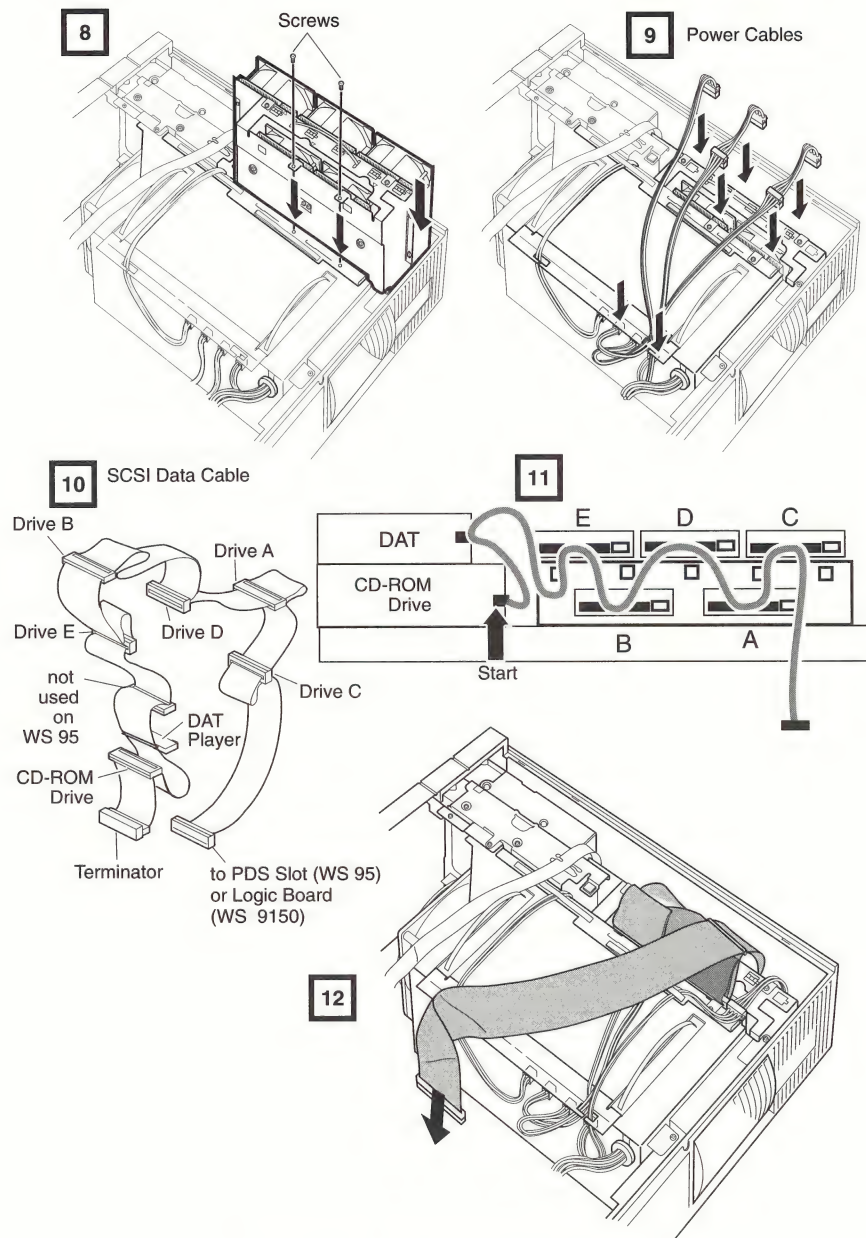

Figure 4b Hard Drive Upgrade
8. Once you have installed all the hard drives, replace the top of the drive bracket. Replace the two screws that secure the top of the drive bracket to the bottom of the drive bracket (Figure 4b-8).
9. Attach the hard drive power cables (Figure 4b-9).
10. The SCSI data cable connects up to five hard drives and one DAT player. Figure 4b-10 indicates which connectors attach to which peripherals. Connect the DAT player first. If fewer than six peripherals are present, leave the connectors for the missing peripherals disconnected. Pull through the cable that connects the floppy drive (if present) to the PDS card so that the cable will not obstruct the insertion of the drive bracket.
11. Attach the drive E connector on the 5-drive SCSI cable to the hard drive in slot E. Fold over the cable and attach the drive B connector to the drive in slot B (Figure 4b-11).
12. Attach the drive D connector on the 5-drive SCSI cable to the hard drive in slot D. Fold over the cable and attach the drive A connector to the drive in slot A (Figure 4b-11).
13. Fold over the cable and attach the drive C connector to the drive in slot C (Figure 4b-11).
14. Attach the end of the 5-drive SCSI cable to the hard drive connector on the logic board on the WGS 9150 or to the PDS card on the AWS 95 (Figure 4b-12).